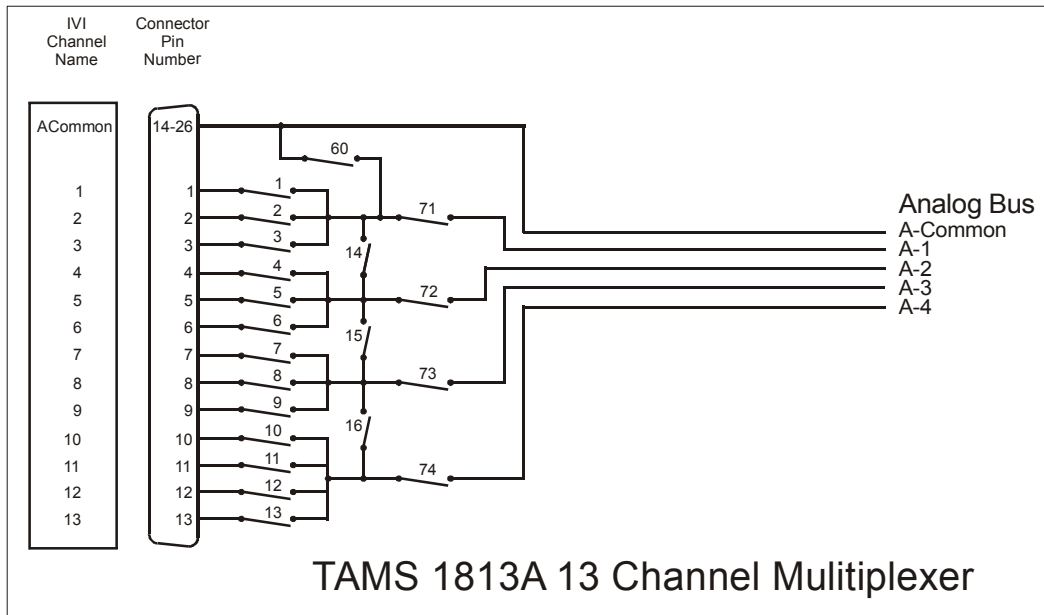

Figure 1 -- TAMS 1813A 13 channel multiplexer
The TAMS 1813A is a 13 channel multiplexer switch. See Figure 1.
-- see figure 1
The channels for the IVI driver and NI Switch Manager are shown in Figure 1.
The channels for the IVI driver and NI Switch Manager are shown in Figure 1. This is the list of all IVI channels: